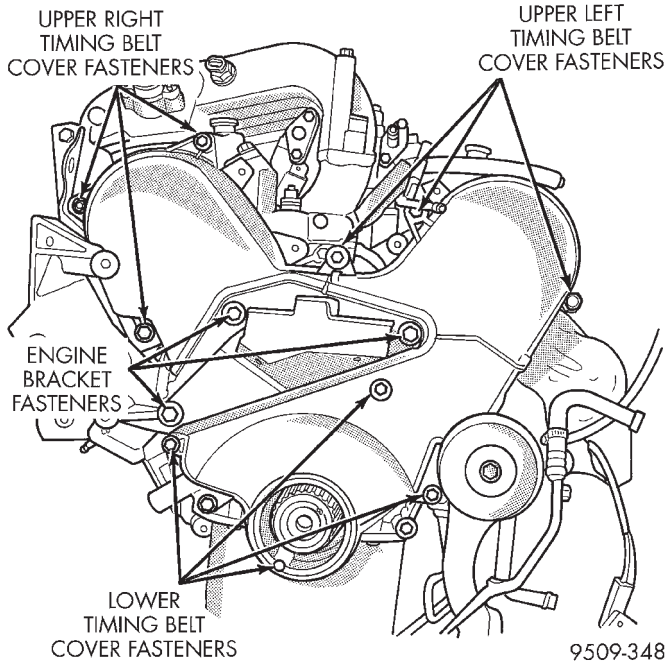

Fig. 118 Timing Belt Covers
(1) Remove the upper left timing belt cover (Fig. 118).
(2) Inspect both sides of the timing belt drive & back. Replace belt if any of the following conditions exist.